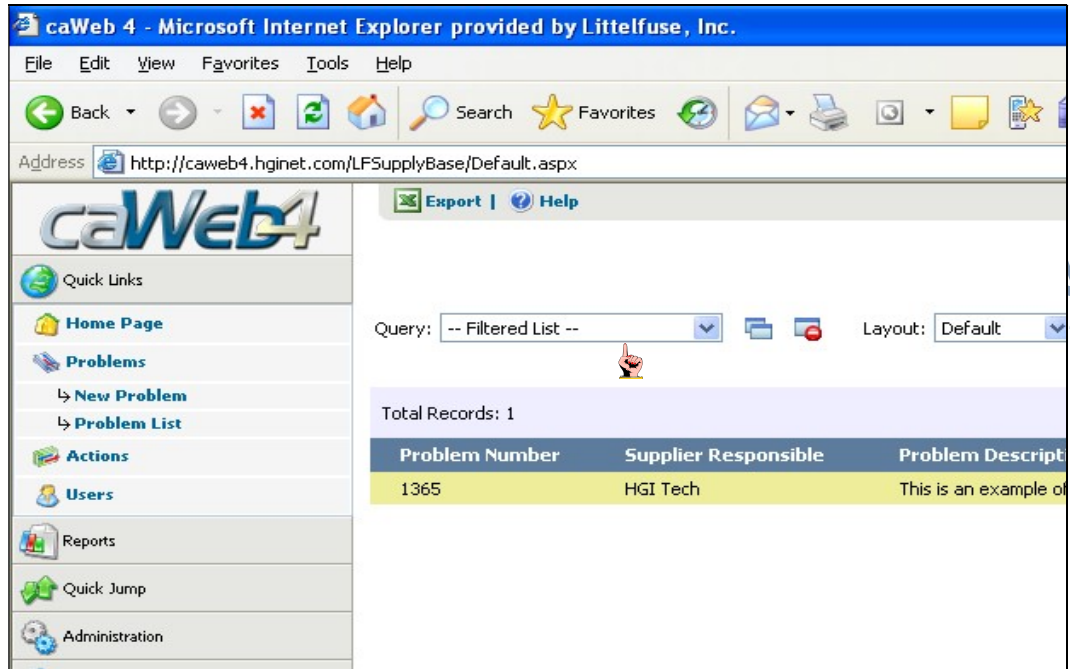

Figure 3 - Viewing a Problem List Screen
- 6.5. The Problem List will show basic information related to any pending rejections: Problem Number, Problem Description, Part Number, Part Name, and Date of Rejection. To select a particular problem, click on the highlighted line with your mouse. See Figure 3 Below.